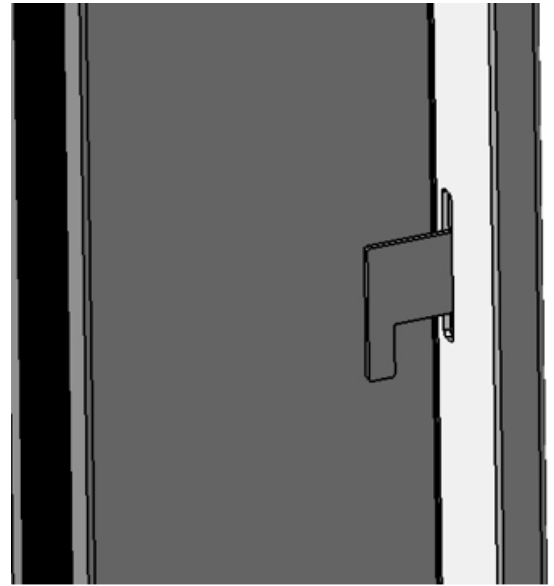

Figure 21
16. a. Slide the left Side Trim into place by carefully guiding the Side Trim hooks through the Side Trim Attachment slots. Figure 21 shows an inside view.